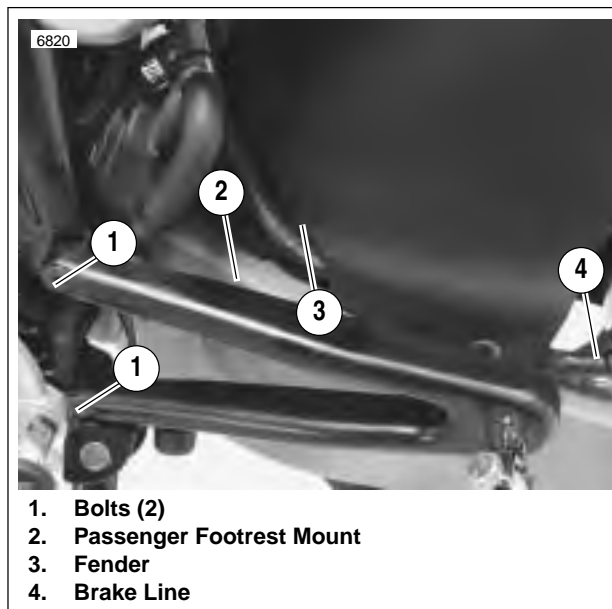

Figure 2-115. Rear Fender With Brake Line (Left Side)
1. See Figure 2-115. Loosen two bolts (1) securing footrest mounts (2) on both sides.
1. See Figure 2-115. Position fender (3) over tire, making sure that the brake line (4) is on the inside of the fender as shown.